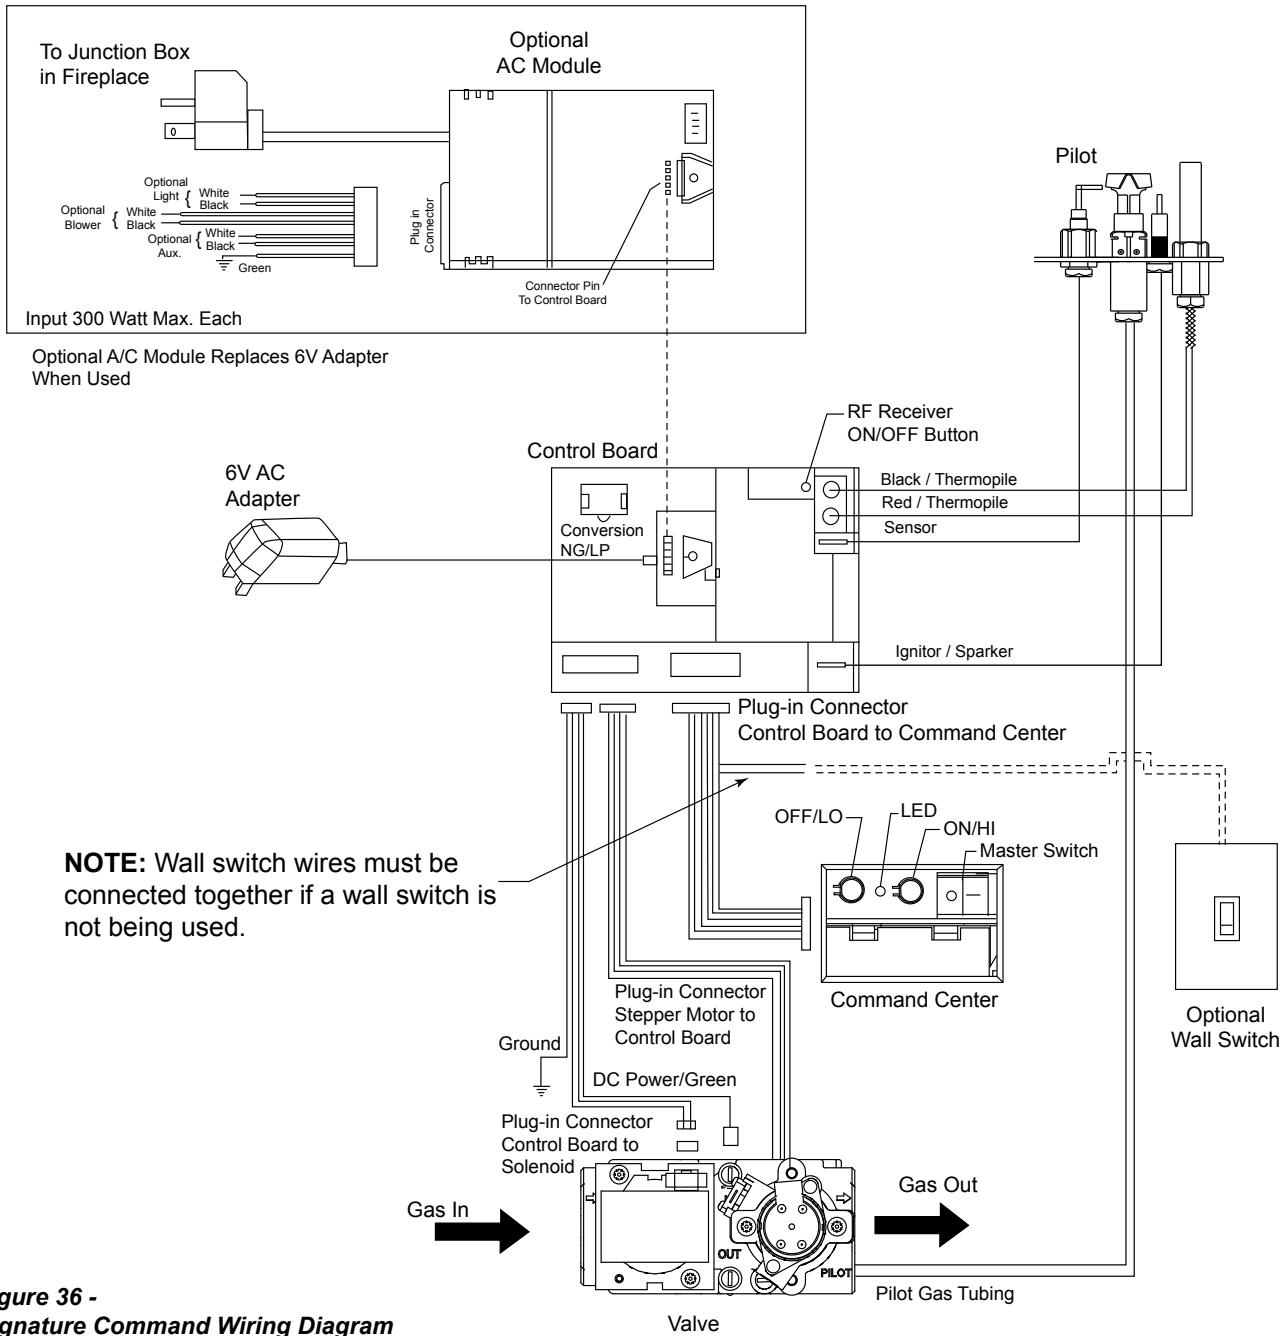

Figure 36 - Signature Command Wiring Diagram
The wall switch wire connection is located off the 2 ft. wire harness from the control box to the command center. *Figure 36*. The connection is labeled "Wall Switch". Unplug the male and female connectors and connect the two (2) low voltage wires provided. Run wire to desired location on wall. Up to 50 ft. of 18 ga. wire may be used if necessary. Attach wires to wall switch. Mount the wall switch in to junction box and screw on cover.